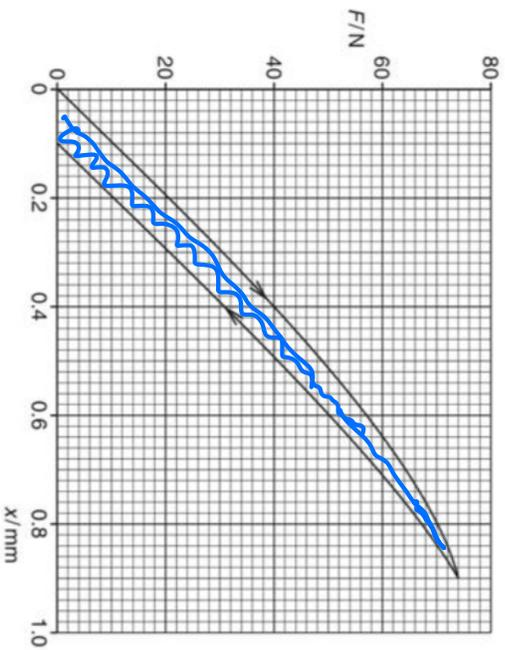

Fig. 4.1
- (b) The wire in (a) is now extended beyond its elastic limit. The forces causing the extension are then removed. The variation with extension  $x$  of the tension  $F$  in the wire is shown in Fig. 4.1.
- (i) On Fig. 4.1, shade the area that represents the energy  $E_s$ . [1]
- (ii) Use Fig. 4.1 to calculate the energy  $E_s$ .